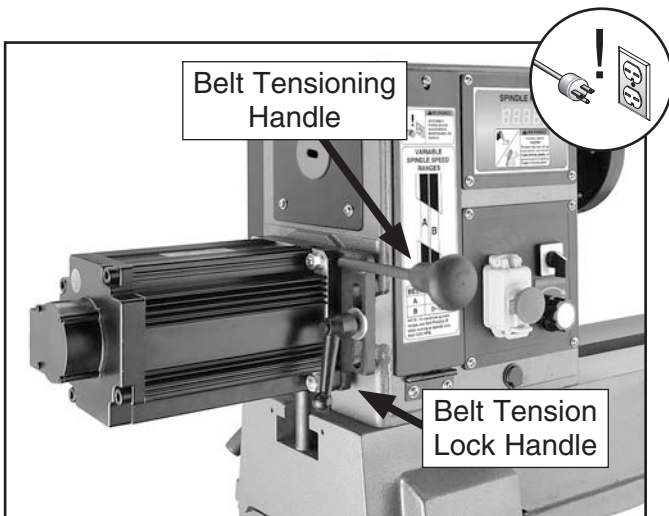

Figure 61. Belt tensioning handle and tension lock handle.
3. Loosen the belt tension lock handle shown in **Figure 61**.
4. Use the belt tensioning handle (**Figure 61**) to lift the motor assembly all the way up, then re-tighten the motor tension lock handle—this will hold the motor in place while you change the belt position.